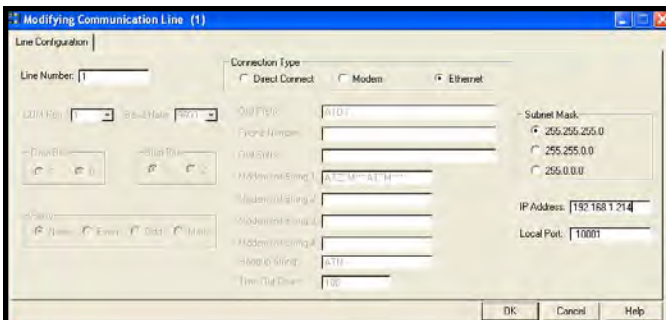

Figure 106. Out-of-the-Box™, Adding New Communication Line window
- III. The “Adding New Communication Line” window will open. The following fields will have to be configured for Wireless Network Adapter use (see Figure 106):